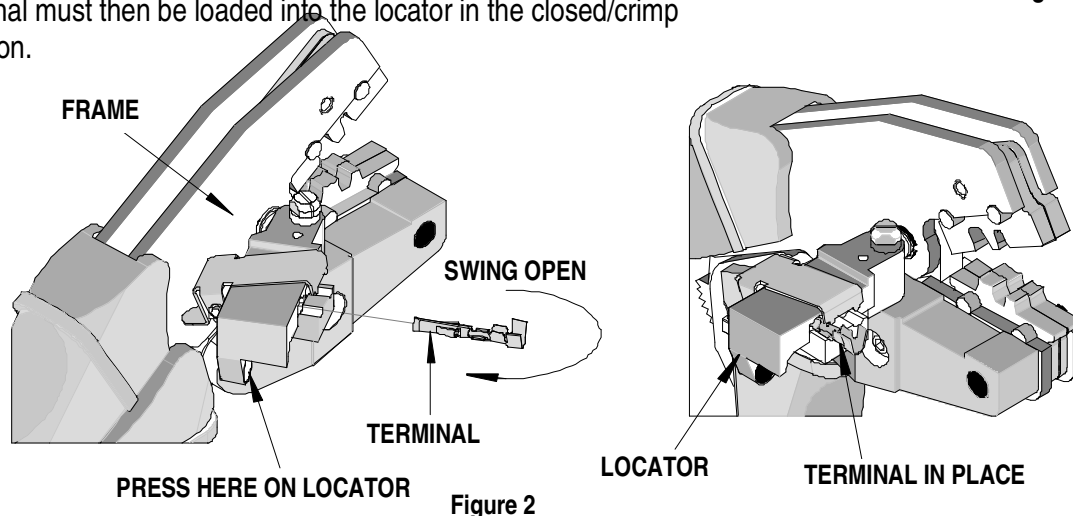

Figure 2
2. Swing the terminal locator away from the crimp tool shown in Figure 2. Gently press on the locator to open the wire stop. Some terminals with large insulation grips may interfere with the crimp tooling when swinging the locator into position. The terminal must then be loaded into the locator in the closed/crimp position.
3. When using the locator, swing the locator away from the crimp tool, and gently press the locator against the tool frame as shown in Figure 2. The wire stop will automatically open. Insert the proper terminal into the proper nest opening. Make sure when choosing the nest opening, it will correspond with the A or B profile on the hand tool.